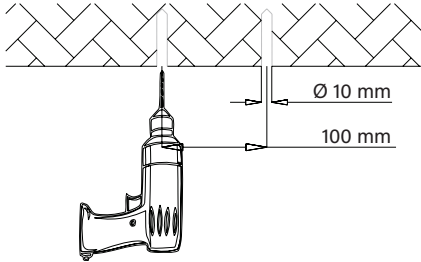

Figure 3
1. Mark with a mark pen or sharp tool on the mounting surface and drill. (Figure 3).